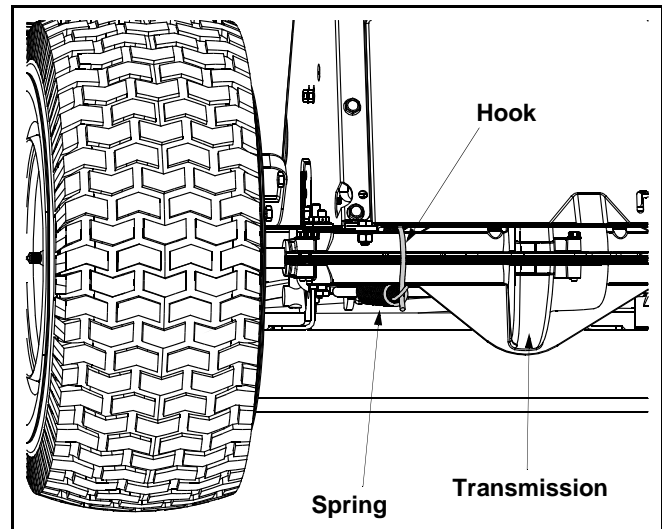

Figure 14
- Using a spring puller (Part No. 732-0571) or other suitable tool, disconnect the spring which is attached to a small hook found on the left, rear portion of the transmission. See Figure 14.
- Using a spring puller (Part No. 732-0571) or other suitable tool, disconnect the spring which is attached to a small hook found on the left, rear portion of the transmission. Refer to Figure 14.